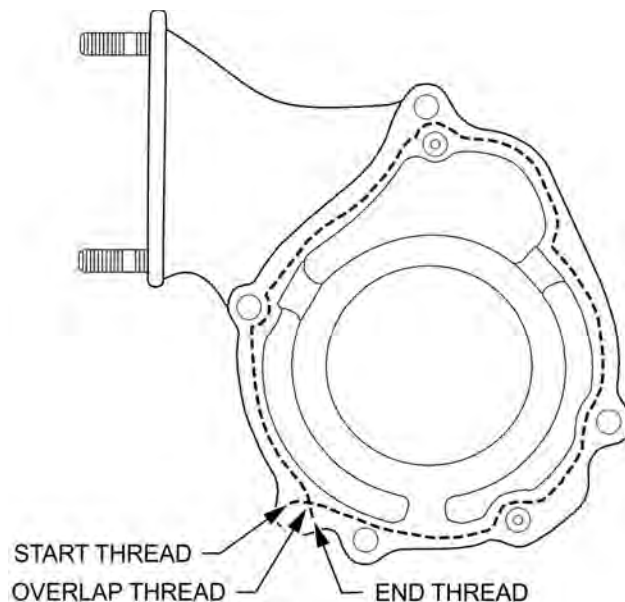

Figure 15. Threading Diagram, Starter Adapter Assemblies 641348, 646220, & 653074
4. Apply P/N 641543 (a continuous, single piece of grade "D" silk thread) as shown by the dashed lines in Figure 15.